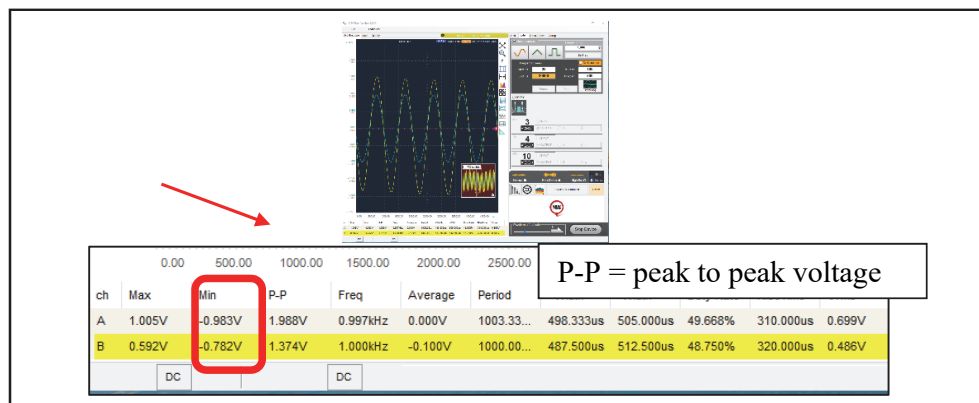

Fig. 17
- 5.3.14 There are three ways to monitor the signal changes during the frequency sweeping. One is to look at the waveform, second way is the look at the information on bottom as shown in Fig. 17.
- 5.3.16 Make use of the frequency sweep function, set frequency function and voltage (P-P, peak to peak) information as shown in Fig. 17, to find the voltage at a desired frequency. For example, we can find out what measuring voltage in Channel-B at 2.01 kHz. You could refer to the video (video9-measuring_voltage_at_a_frequency.mp4).